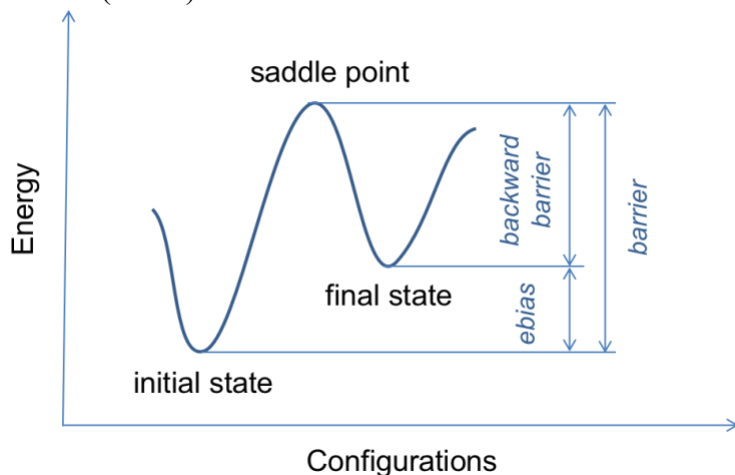

Figure 3.9. A schematic view of a saddle point (SP) between the initial and final states
A saddle point (SP) lays between the initial and final states as illustrated in Figure 3.9, where the **barrier** (*barr*) is the energy difference between the SP and initial state, and **ebias** is the energy difference between final and initial states. As a result, the **backward barrier** (*bbarr*) from final state to initial state is **barrier - ebias**.